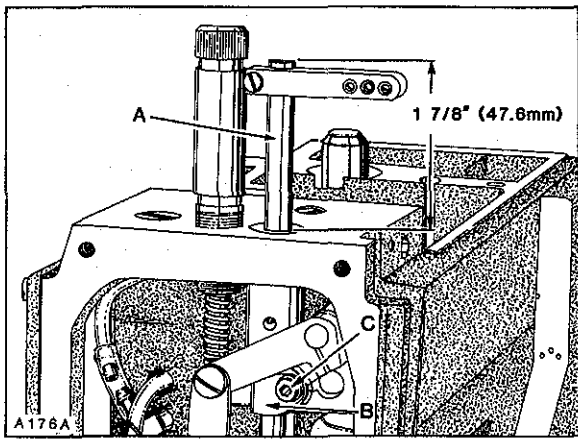
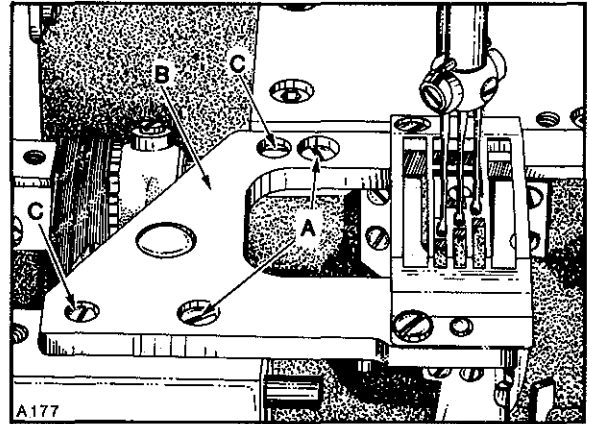

Fig.7
Fig.8
Insert a new set of needles. As a temporary setting, the TOP of needle bar (A, Fig. 7) should be approximately 1 7/8 inches (47.6mm) from the TOP of upper needle bar bushing when needle bar connection (B) is positioned at TOP of STROKE as shown in Figure 7. Adjustment can be made by loosening screw (C), reposition needle bar up or down as required and tighten screw (C) VERY LIGHTLY.
Rotate handwheel to ensure that needles center in the needle holes of throat plate as shown in Figure 8. Adjustment can be made by loosening screw (C, Fig. 7) slightly, allowing needle bar to be rotated as required, while being careful to maintain the temporary height setting and tighten screw (C) AS SPECIFIED. An additional 4-way directional adjustment of the throat plate can be accomplished as follows:
**IMPORTANT:** Adjustment of throat plate must be coordinated between needles and feed dog; refer to "FEED DOG SETTINGS". Loosen two screws (A, Fig. 8) in throat plate support (B). Loosen two screws (C) which secure locating ferrules, allowing the throat plate support to be repositioned slightly. Tighten screws (C) first, then screws (A).